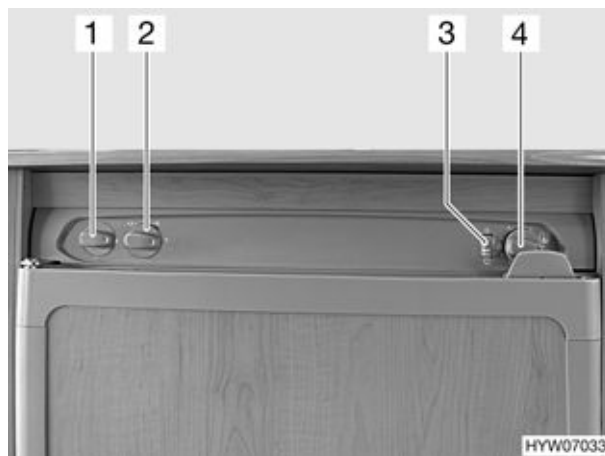

Fig. 146 Operating controls for refrigerator (variant 2)
- Set energy selector switch (Fig. 146,2) to gas .
- Set the control knob (Fig. 146,4) to "Level 5", press and hold in. Gas supply is open. Ignition will take place automatically. A ticking sound can be heard until ignition has been completed successfully.
- Keep the control knob pressed down until the flame indicator (Fig. 146,3) becomes green and then release it. If the flame fades, then the ignition device will repeat the ignition process.
- Use control knob (Fig. 146,4) to adjust refrigerating temperature.
- Set energy selector switch (Fig. 146,2) to "O". The appliance is switched off.
- Set energy selector switch (Fig. 146,2) to 240 V operation
- Use control knob (Fig. 146,1) to adjust refrigerating temperature.
- Set energy selector switch (Fig. 146,2) to 12 V operation